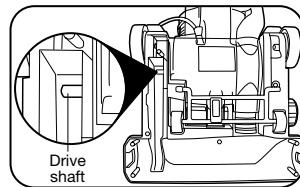
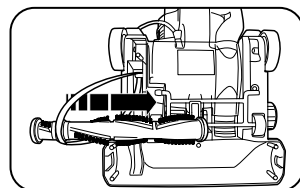

Fig. 3
Fig. 4
3. Loop a new belt around the drive shaft (Fig. 3) and the raised ring between the bristles on the brushroll (Fig. 4).